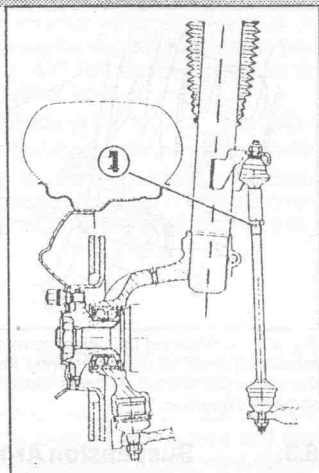

Fig. 6.8. — The nut (1) must be slackened in order to shorten or lengthen the stabiliser linkage.
- Check the heights once more. The difference between the two sides must be within minus 2.0 mm to plus 2.0 mm. If necessary adjust the setting by adjusting the adjustable linkage between suspension cylinder and stabiliser bar after slackening the locknut (1) in Fig. 6.8. Tighten the locknut to 3.0 kgm (22 ft.lb.) after the heights have been re-checked.